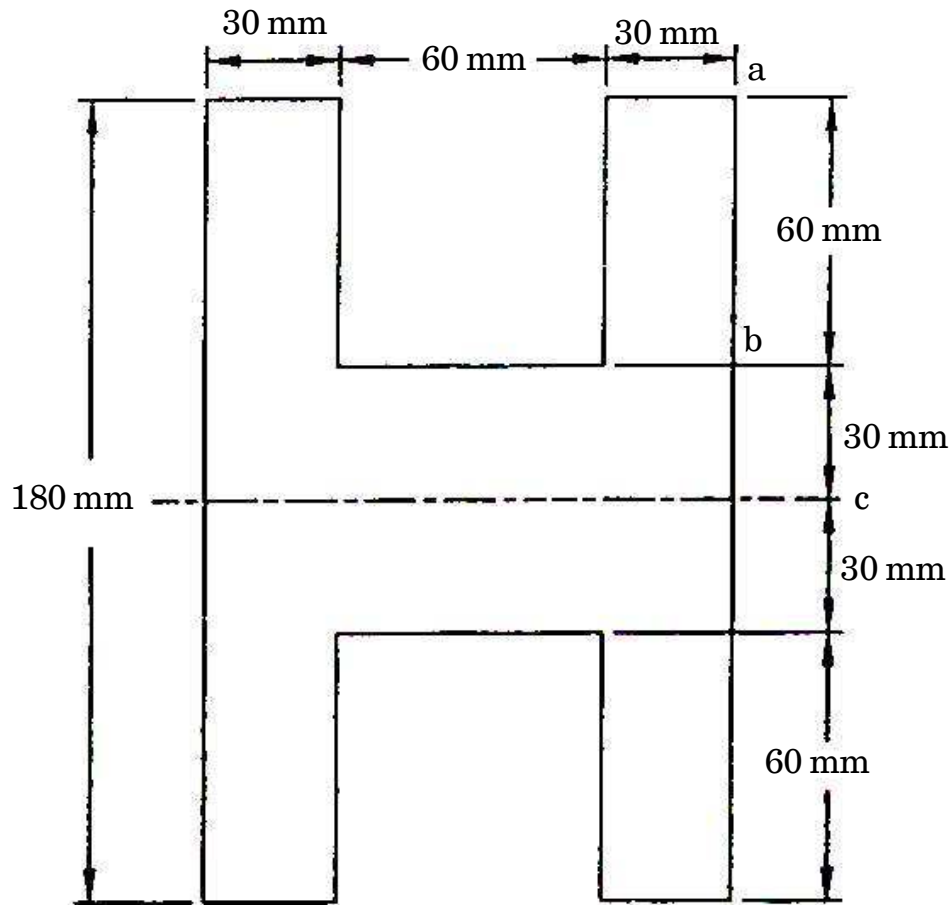

Fig. 7
- (b) A beam section shown in Fig. 7 is subjected to shear force 300 kN. Draw the shear stress distribution diagram for the beam section. [8]